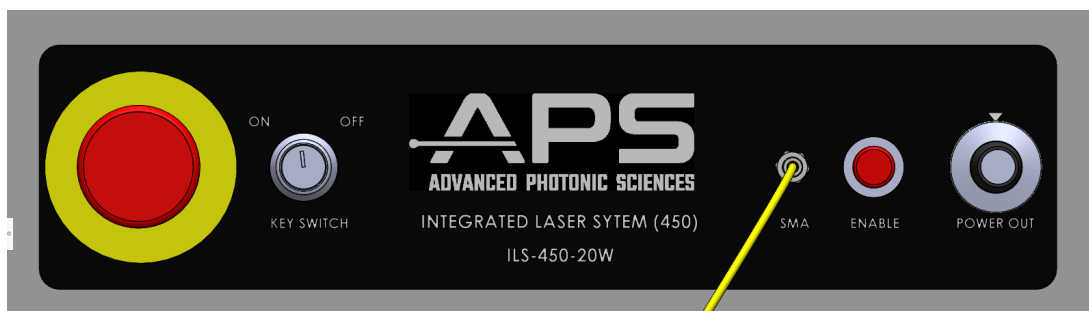
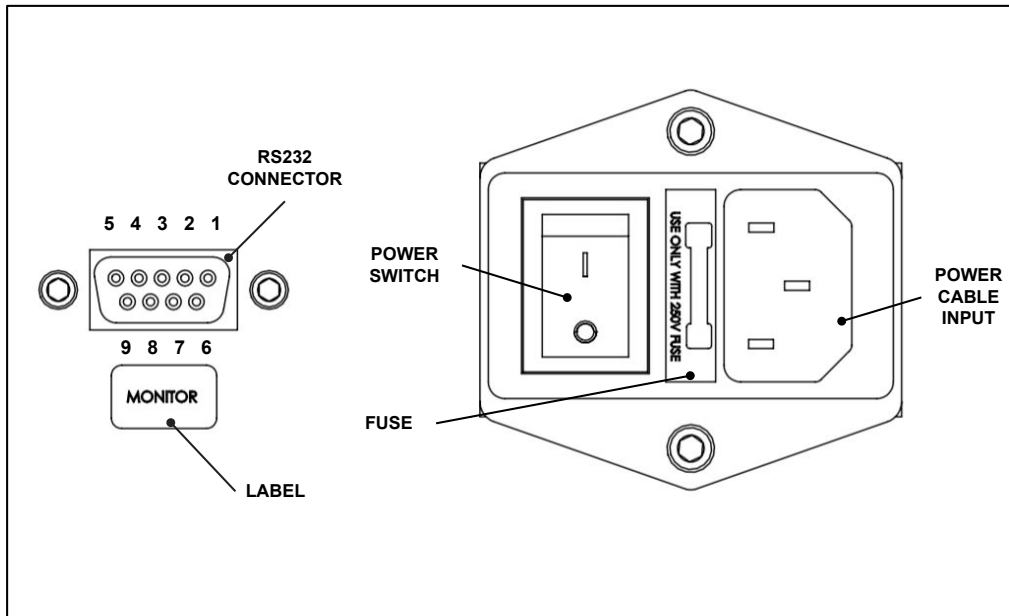

Figure 1: Front Panel Top
Figure 3: Rear Panel Controls
There are various controls accessible to the user to change parameters of the laser during operation. Figures 1, 2 and 3 represent the front panel of the device, and show the necessary components needed both turn on the laser, and change it's parameters.
For immediate operation, it is required that (from Figure 1) the Emergency Stop button is in the **OFF** state (NOT PUSHED-IN), the Key Switch is turned to it's **ON** state (TO RIGHT), the Laser Power Output dial is turned all the way counter-clockwise until it reads **ZERO** on the tick mark, and the Power Switch in the rear of the system (Figure 3) is flipped **ON** (UP). Once all of these controls are in the correct orientation, pressing the RED *ENABLE* Button on the UPPER RIGHT of the Front Panel (Figure 1) will turn the laser **ON** and output the 445nm light through the SMA connector and/or external fiber or collimating lens.
The Emergency Stop is connected to the AC line input on the rear panel shown in Figure 3. To operate the Emergency Stop button, simply push the button in order to shut off the entire system. When conditions are safe again, twist the cap counter-clockwise until it pops back up. The system will begin to run again.